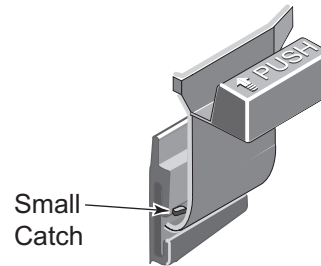

Figure 7 – Safety Latch
SAFETY LATCH (See Figure 7)
1. Press down on the small catch behind the safety latch and press or tap the latch out of the “Tee” slot in the tank (see Figure 7).
- Press down on the small catch behind the safety latch and press or tap the latch out of the “Tee” slot in the tank (see Figure 7).